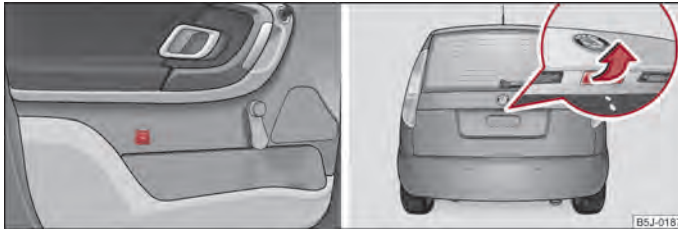

Fig. 15 Unlock the boot lid/handle of the boot lid
- In vehicles with central locking press the button in the driver's door ⇒ fig. 15 - left and open the boot lid in the direction of arrow ⇒ fig. 15 - right.
- In vehicles with central locking press the lever above the number plate and open the boot lid in the direction of arrow ⇒ fig. 15 - right.